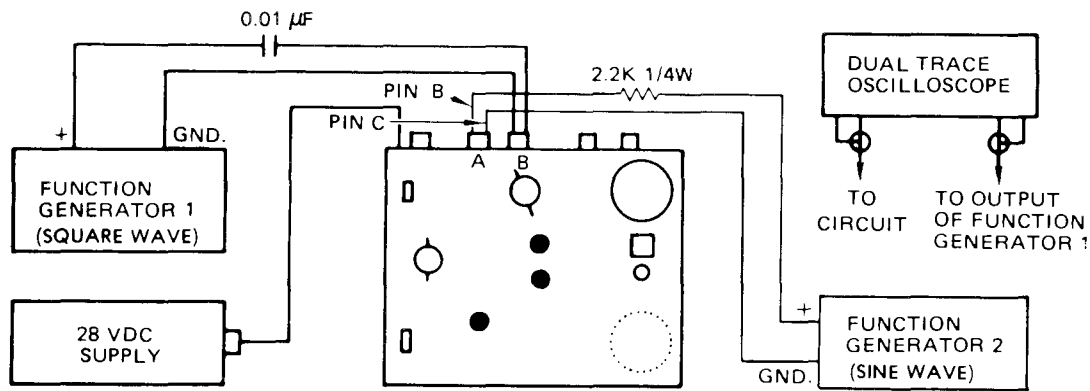

Figure 4-9. Counter-Decoder Test Setup
(1) Add a second function generator to test setup and connect to CHANNEL A accelerometer input as shown in figure 4-9.
(2) Connect oscilloscope input A to function generator 2 and setup function generator 2 for a 55 Hz sine wave output at minimum output.
(3) Connect oscilloscope input B to function generator 1 and setup function generator 1 for a 55 Hz square wave output.
(4) Set R.P.M. RANGE switch to X10 and R.P.M. TUNE dial to 330.
(5) Increase output level of function generator 2 until IPS meter indicates between 0.2 to 0.5 IPS.
(6) Increase frequency of function generator 1 to slightly above 55 Hz until Phazor lamps step around in a counterclockwise direction in approximately 1 second with no skips or pauses.
(7) Change frequency of function generator 1 until rate of rotation is approximately one lamp per second. Verify that lamps illuminate approximately one lamp per second. Verify that lamps illuminate in sequence with no skips or pauses.